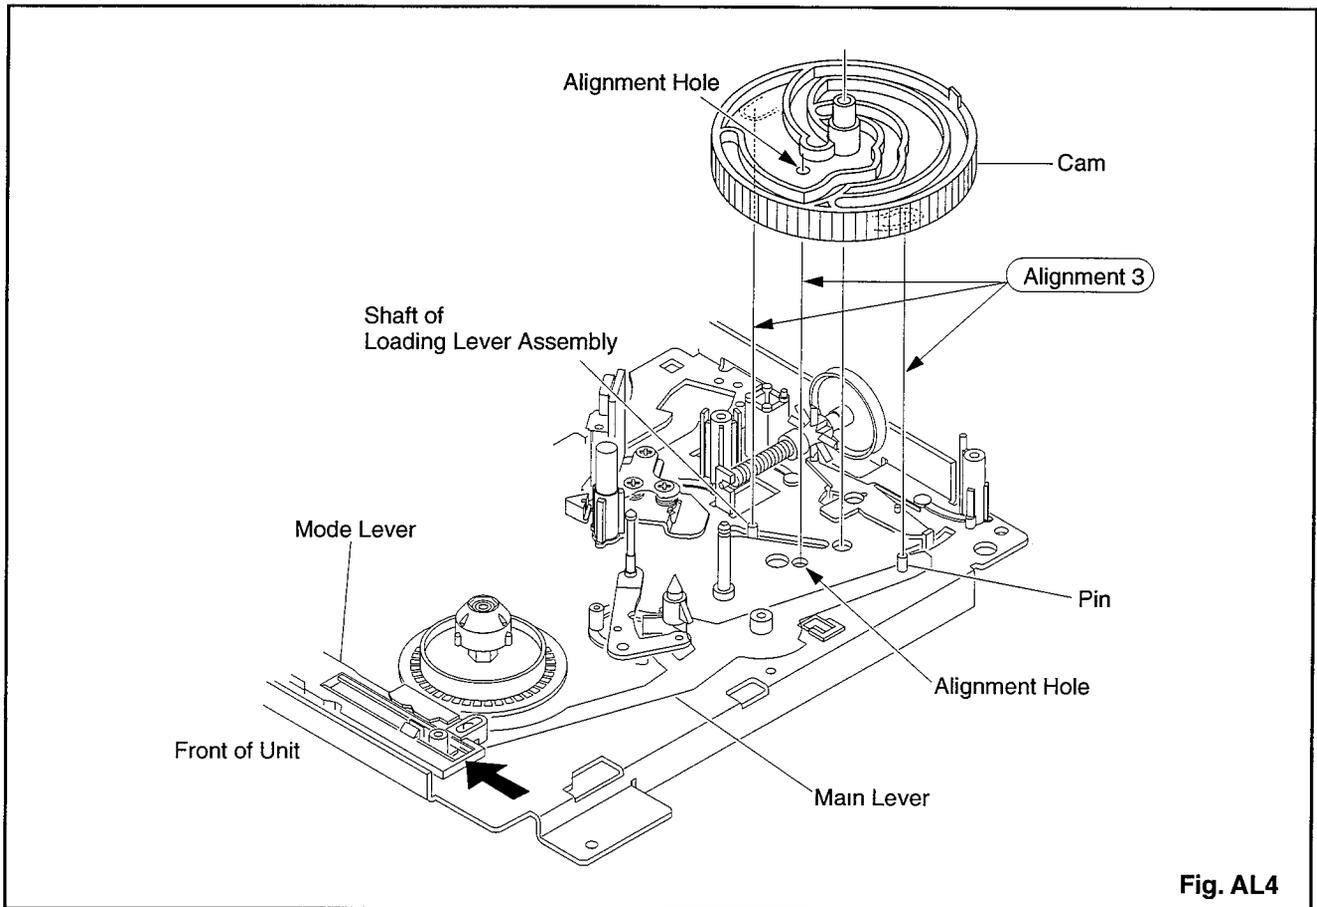

Fig. AL4
1. Make sure that the mechanism is in Eject mode so that the shaft of Loading Lever Assembly is in the position shown in Fig. AL4.
4. After installing the Cam, make sure that the alignment hole of the Cam is still aligned with the base hole and that the pin on the Main Lever and the shaft of the Loading Lever Assembly are inserted into the proper grooves of the lower Cam as specified in Fig. AL4.